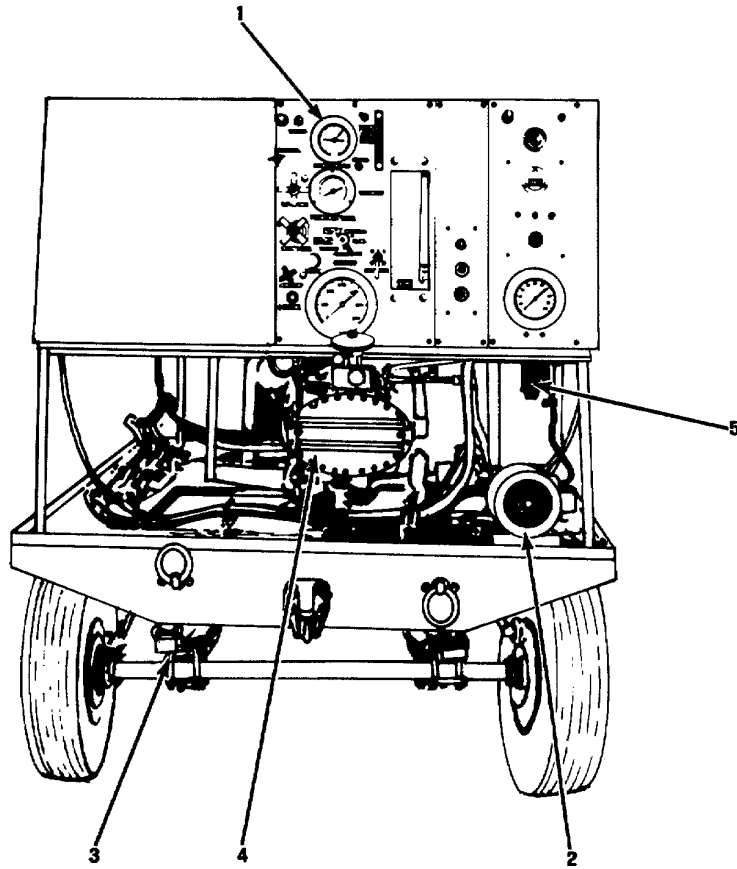

Figure 1-2. Major Components, Rear View.
1-13. Trailer And Running Gear Assembly (3, Fig. 1-2). The trailer frame is of welded steel construction. The trailer rolls easily on four steel wheels equipped with 6.00 x 9.00 inch, 6 ply tires. Individual leaf springs for each wheel give the stand good cushioning against road shocks and rough terrain, protecting the components of the test stand. A hinged towbar (7, fig. 1-3) permits ease of positioning of the test stand and towing. The front wheel steering is the conventional type with steering knuckles, tie rods, and king pins. A hand lever (6, fig. 1-3) sets the rear wheel brakes, holding the test stand in a fixed position during test operation or in parking on a grade. Two tie-down rings are provided on both the front and rear of the trailer frame to permit tie-down of the test stand for storage or shipment.
1-15. Electric Motor. Power for each test stand system is supplied by a 60 HP, 440 Volt, 3 Phase, 60 Cycle, 3550 RPM electric motor (1, fig. 1-3) directly coupled to the main pump (4, fig. 1-2).
1-16. Main Hydraulic Pump (4, Fig. 1-2). The main hydraulic pump supplies fluid at high pressure for testing of aircraft hydraulic circuits. The pump consists of a high pressure pump section and integral boost pump section. The pump contains a manual volume control for varying the output volume and a compensator control to regulate the output volume by changing the stroke length of the pumping pistons. Change in piston stroke length is controlled by system pressure so that when the pump is operating at a pressure less than the maximum setting of the compensator control, the pump delivers full volume. When the system pressure reaches the compensator control setting, the pump output is automatically reduced to the amount of flow required to maintain this pressure throughout the system. The compensator control provides an adjustable range of 500 to 5000 psig with flow varying to 27 gpm maximum. The volume control permits regulation of maximum volume output by limiting the angle of a cam plate through a threaded mechanism within the pump. The return line for the test system also includes a flowmeter to monitor fluid flow.
1-21. Fill Pump System. This system is used to fill the test stand hydraulic system with fluid in the preparatory operation of readying the test stand for scheduled operations. It also functions to fill the aircraft reservoir with pressurized fluid from the stand reservoir. The system includes an electric motor driven fill pump (2, fig. 1-2) with filter (5), system actuating valves (30, fig. 1-5), relief valve (33) and check valve (14).